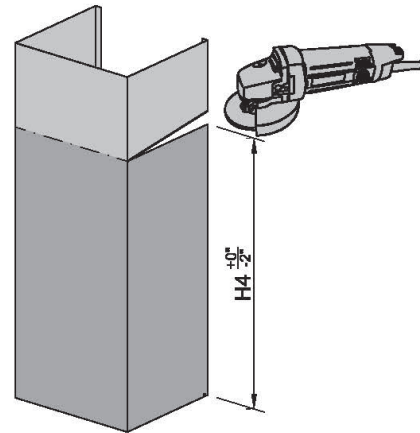

Figure 7
- 8 Cut chimney to height needed. (Figure 7)